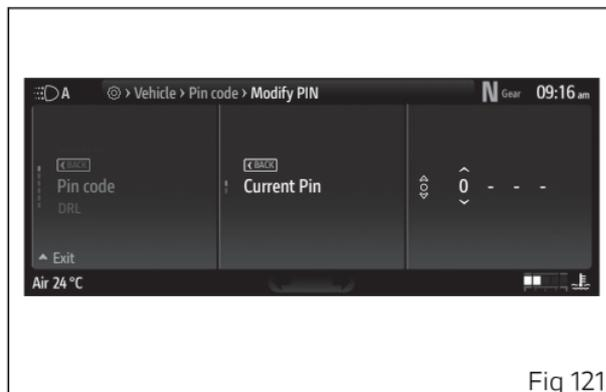

Fig 121
- The display shows "Current PIN", press  to proceed with entry (Fig 121).